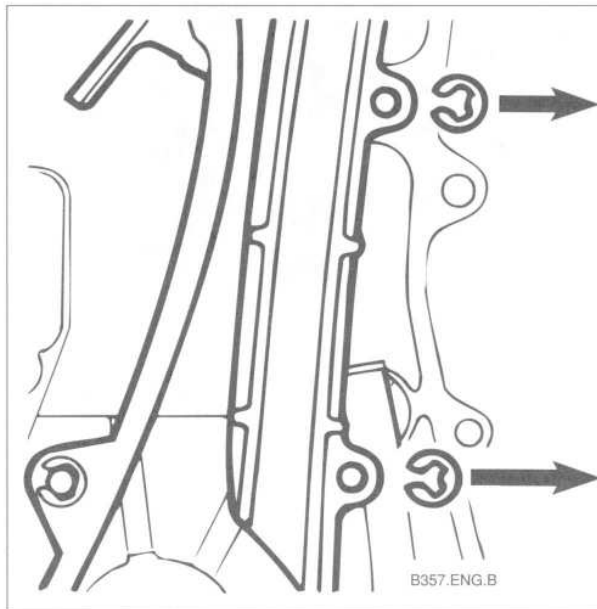

Fig. 28. Guide rail mounting circlips.
20. Inspect the guide rail and tensioner rail for deep grooves caused by chain contact. The rails can be replaced after removing the circlips from the mounting pins. See Fig. 28. Always use new circlips.